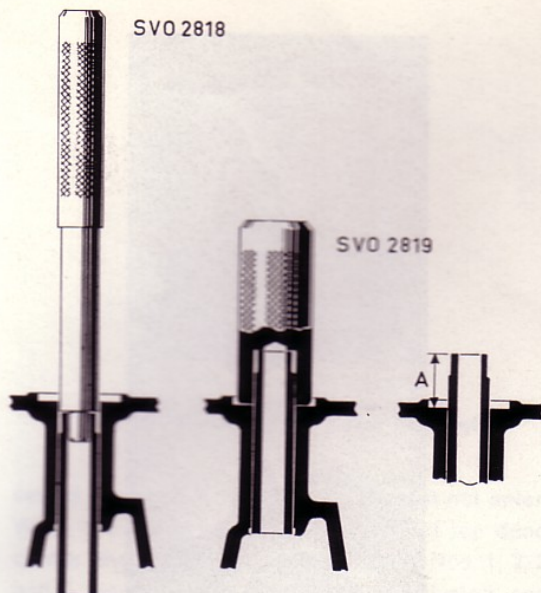

Fig. 28 Replacing the valve guides
2. Press in the new guides using drift SVO 2819 which gives the correct depth, see Fig. 28.